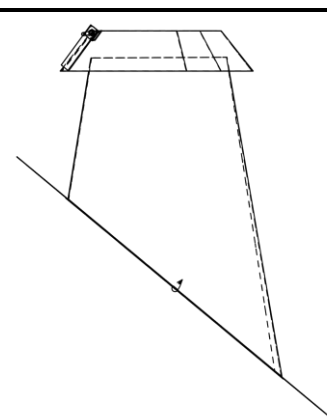

FIGURE 23 STORM COLLAR POSITION
8. Place the storm collar over the chimney and flashing (see Figure 23). Seal the collar to the chimney with silicone (high temperature not required).